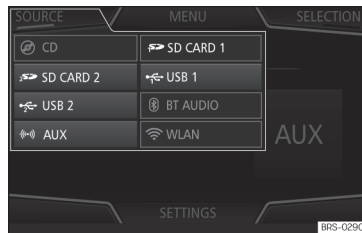

Fig. 196 MEDIA mode: change media source.
- **OR:** From the *Media* main menu, press the **SOURCE** function button  **Fig. 196** and select the desired media source.